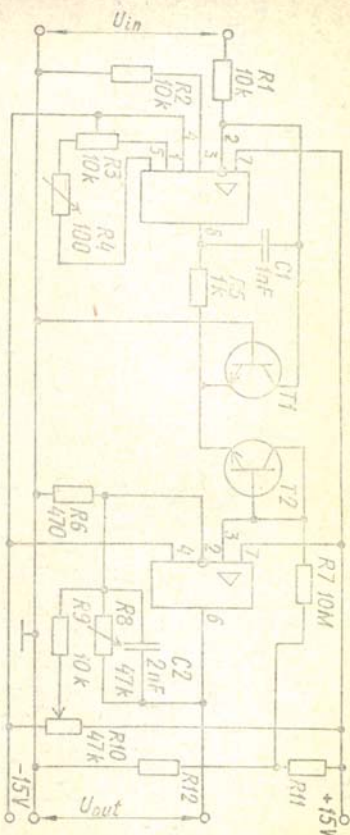

Fig. 4.11. The temperature-compensated logarithmic amplifier circuit.
In addition to the limited output voltage range, there is another snag associated with the basic log amplifier circuit of Fig. 4.10: it is temperature sensitive because of the kT/e factor in the transistor equation. Those two limitations may be overcome by using the more advanced circuit of Fig. 4.11. Here a second stage is added, both to increase gain and to provide temperature compensation. The latter feature is achieved by the inclusion of a second base-emitter junction T_2 , in opposition to the main logging transistor T_1 ; T_2 experiences a negligible change in operating current over the full operating range so that it does not tend to counteract the logging of T_1 . It does however encounter the same temperature changes as T_1 so that the resultant changes in its base-emitter p. d. compensate for the variations in T_1 .
1. A wide range of signal amplitude must be displayed on a single meter scale. 2. The results can conveniently be displayed as a straight line decay via a logarithmic amplifier. 3. Those two limitations may be overcome by using the more advanced circuit of Fig. 4.11. 4. Potentiometer R_8 can be readily adjusted so that a 10 dB change in input gives a convenient 1 V change in output.